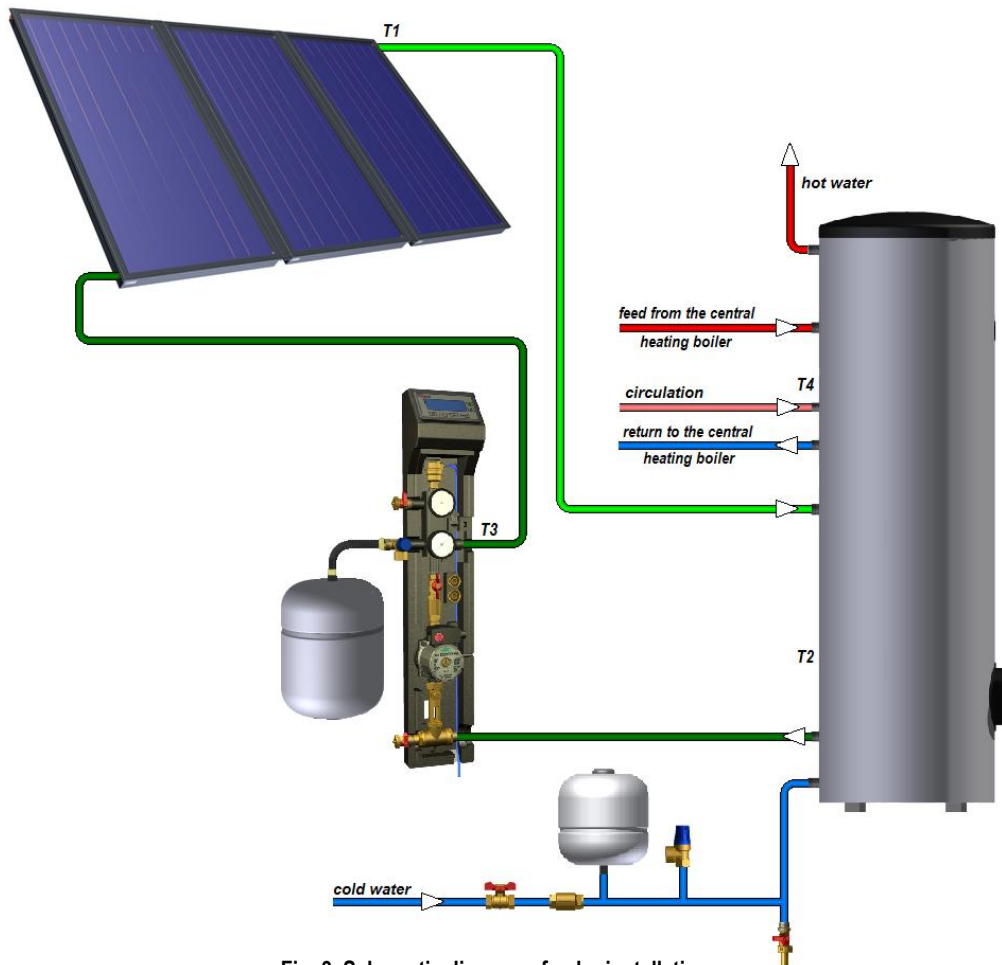

Fig. 3. Schematic diagram of solar installation
- Connect the hydraulic connections of the pump and control unit with the solar collectors, the boiler, and the expansion tank, as shown in the schematic diagram of the installation (**Fig. 3**).
- Cold water connection should be done according to the presented schematic diagram of the installation (**Fig. 3**), or the schematic diagram of the installation in a warranty card.